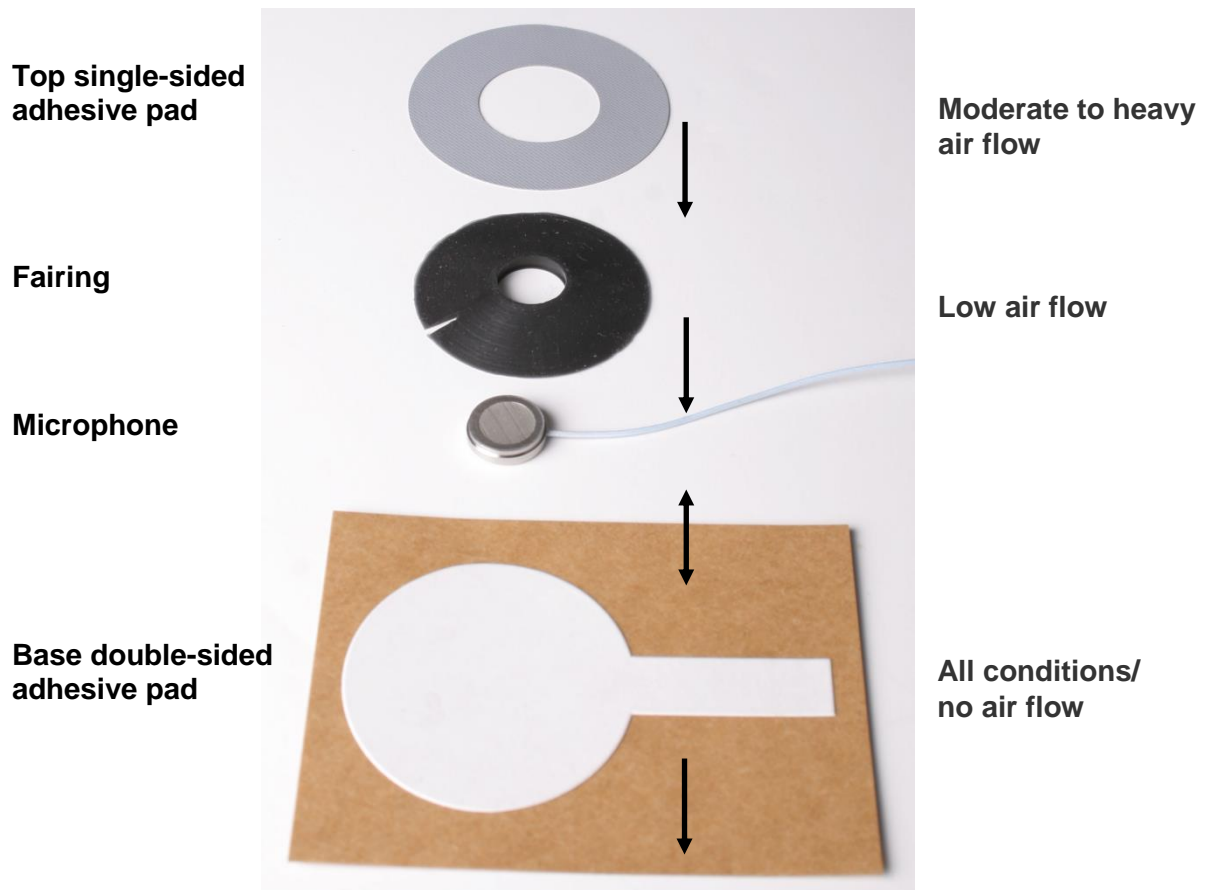
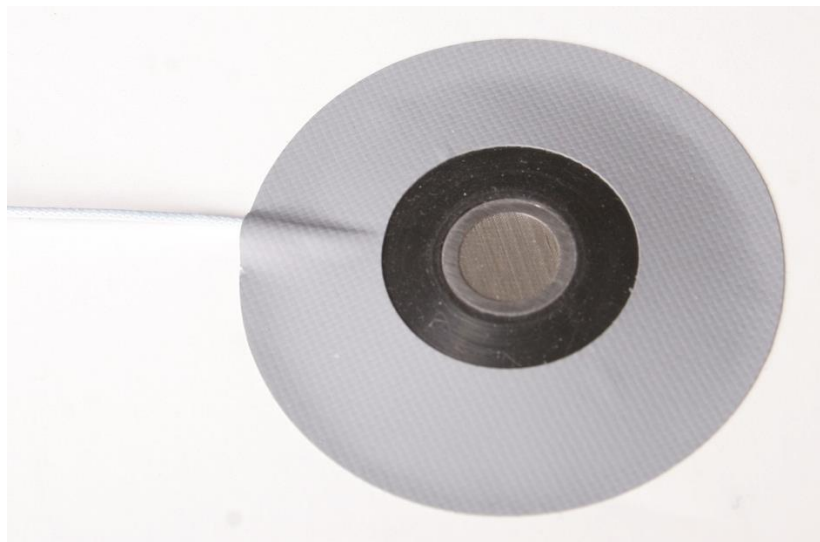
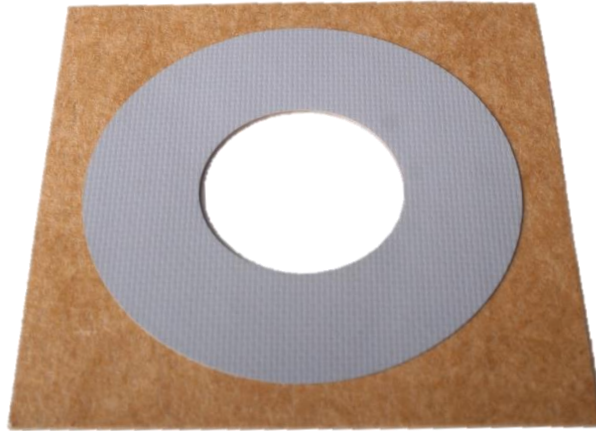

Figure 4: Methods of securing the Surface Microphone to its mounting surface
Figure 5: One sided Adhesive Pad securing the Surface Microphone and Fairing in place
Figure 8: Single sided adhesive pad
Consider the expected air flow across the surface on which the Surface Microphone will be mounted to determine the best way to secure the microphone to the surface. See Figure 4. When no air movement is expected, the double-sided adhesive pad, trimmed to the size of the microphone if desired, is adequate. For low air flow speeds, such as on the side of a vehicle, include the Fairing along with the double-sided adhesive pad to mount the microphone. At moderate to heavy air flow speeds, such as in a wind tunnel, add the single-sided adhesive pad on top of the Fairing. See Figure 5. Regardless of the mounting method, the Surface Microphone’s profile will not exceed 3.2 mm.
- 4) To attach the single-sided adhesive pad (see Figure 8) when the Surface Microphone will be used in moderate to heavy air flow, peel off the protective paper to expose the pad's adhesive surface and press it onto the Fairing as shown in Figure 5.